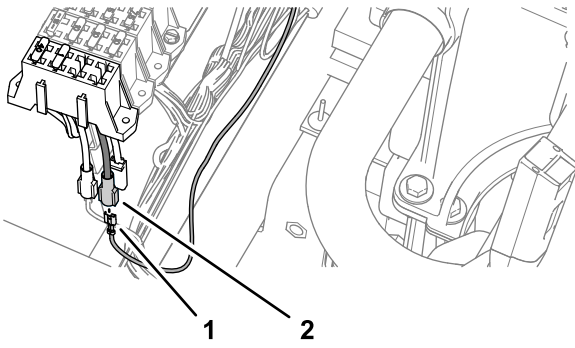

Figure 154
1. Plug the terminal of the modem power harness labeled SWITCHED into the socket connector for options power of the fuse block (Figure 154).